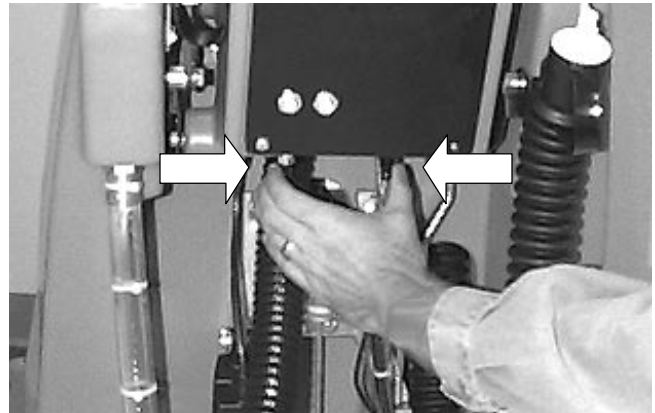

FIG. 5
2. Squeeze levers together and lift or lower control grips to a comfortable operating height (Figure 5).